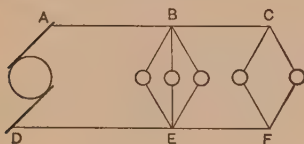

FIG. 64.
**Prob. 6.** If each lamp, Fig. 64, takes 0.4 ampere, how much current flows in the following sections of the line: *AB*, *BC*, *DE* and *EF*?
**Prob. 11.** In Fig. 64,